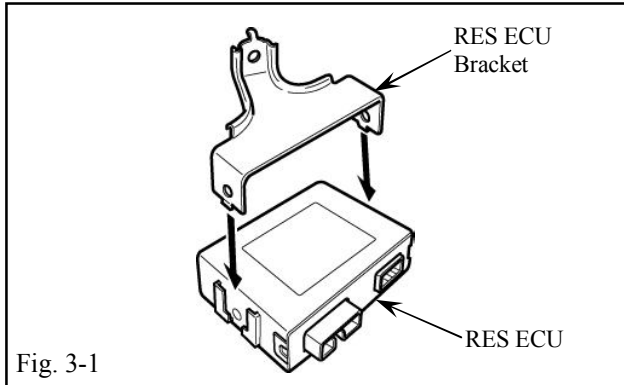
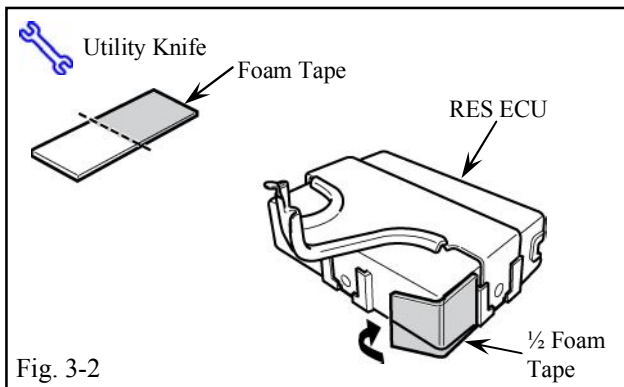
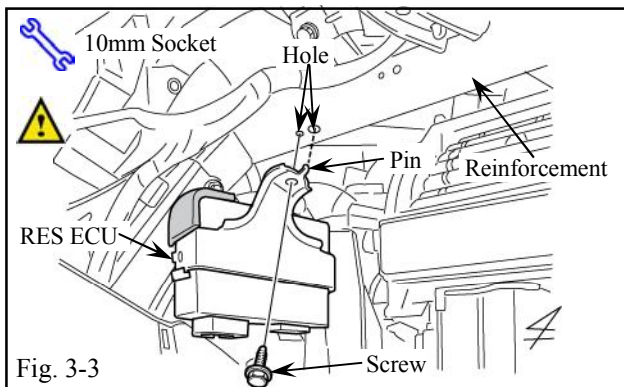

Fig. 3-1
Fig. 3-2
Fig. 3-3
- (a) Insert the RES ECU Bracket into the indicated Bracket Slots on the RES ECU. (Fig. 3-1)
(1) Ensure the Bracket is firmly attached to the ECU.
- (b) Cut 1 Foam Tape in half. Apply it to the RES ECU as shown. (Fig.3-2)
(1) Do not discard the Extra Foam Tape.
- (c) Using the Screw from the Kit, install the RES ECU Bracket. (Fig. 3-3)
(1) Make sure that the bracket pin seats properly.
- (h) Using the extra 1/2 of Foam Tape from Fig.3-2, apply it to the Gateway ECU Bracket as shown. (Fig. 3-6)